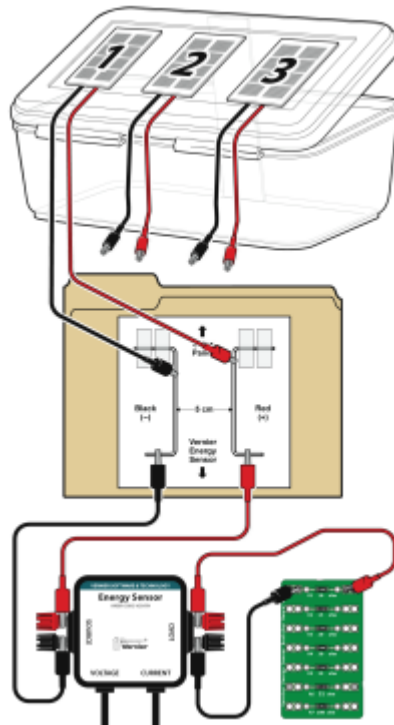

Figure 7
- a. Clip one end of a wire lead to the black Load terminal and the other end of the wire lead to the hole on the left side of the 10 ohm resistor (see Figure 7). **Note:** If you have a black wire lead, use it. If not, you can use any other color.
16. Connect the Energy Sensor to the paper clips (see Figure 7).
17. Connect Solar Panel 1 to the paper clips (see Figure 7).